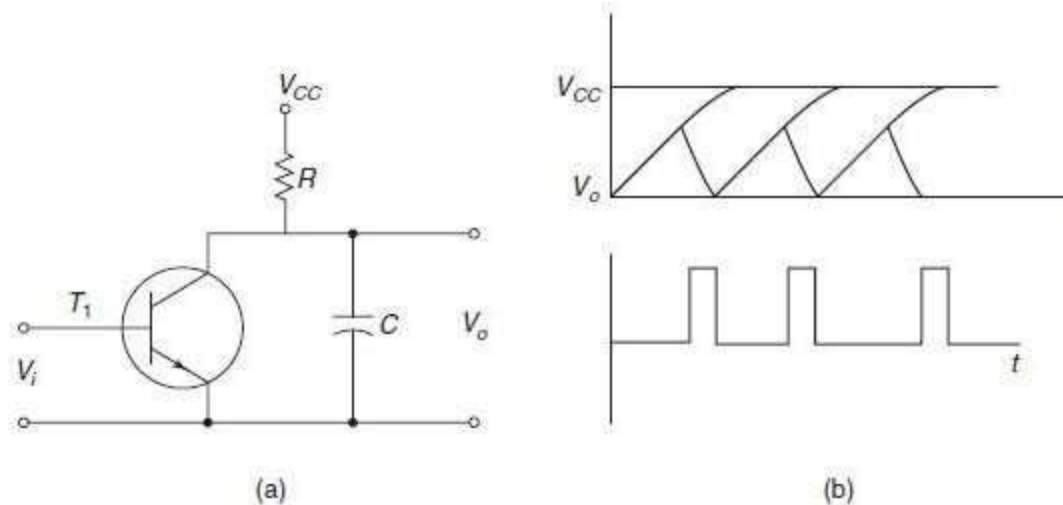

Figure 14-7: (a) simple saw-tooth generator (b) associated waveforms.
- The circuit shown in Fig. 14-7(a) is a simple sweep circuit, in which the capacitor C charges through the resistor R .
- The capacitor discharges periodically through the transistor T_1 , which causes the waveform shown in Fig. 14-7(b) to appear across the capacitor.
- The signal voltage, V_i which must be applied to the base of the transistor to turn it ON for short time intervals is also shown in Fig. 14-7(b).